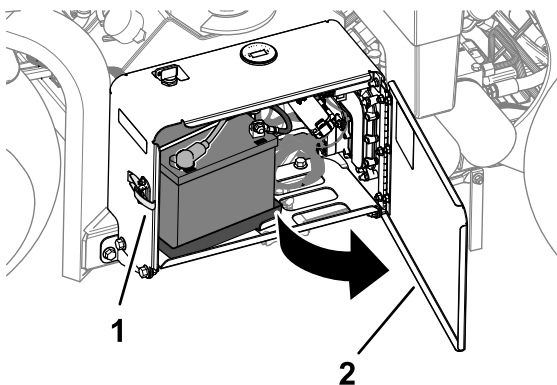

Figure 171
1. Unlatch and open the battery-compartment door (Figure 171).